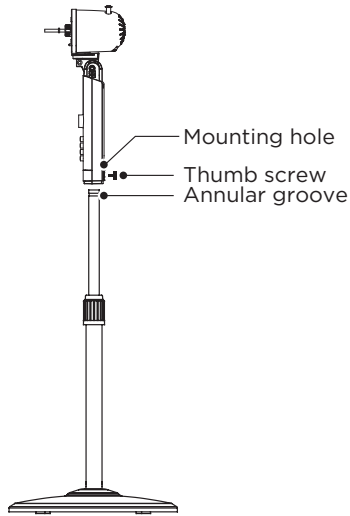

Fig.4
- 5 Place the head unit on the column and tighten the thumb screw in alignment with the groove on the internal pole. (Fig.4)